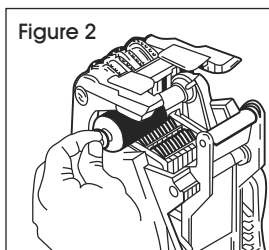

Figure 2
3. Hold the new ink roller by the stem. (See Figure 2)
4. Slide ink roller onto the post, snapping it into place. (See Figure 2)